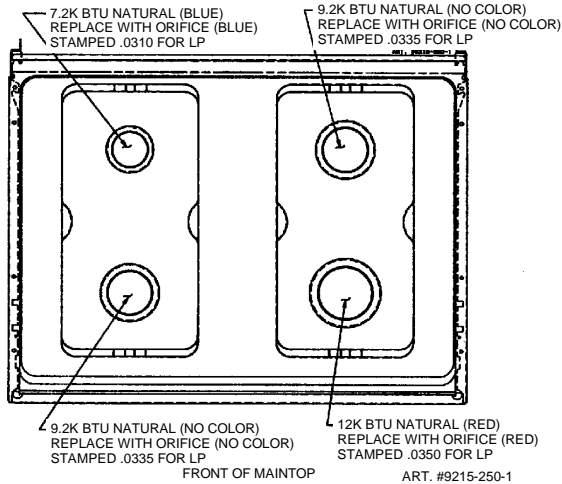

FIGURE 4
5. Place the corresponding orifice hood on the burner fitting according to figure 4. Turn the orifice hood clockwise by hand approximately one turn. Tighten the orifice hood clockwise with a 1/2" socket wrench approximately 2 1/2 turns.